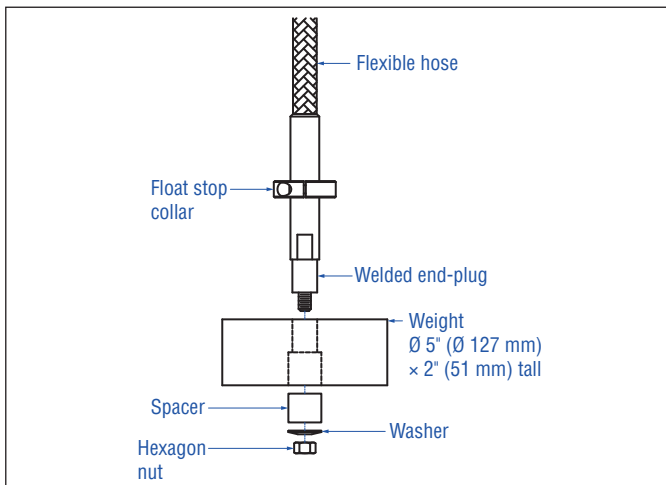
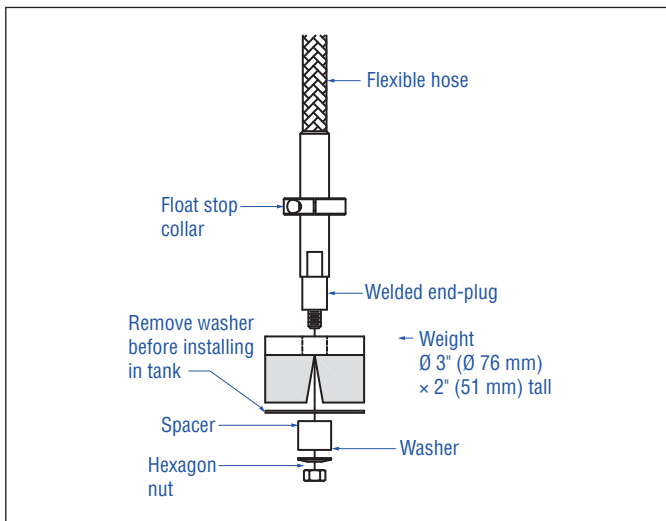
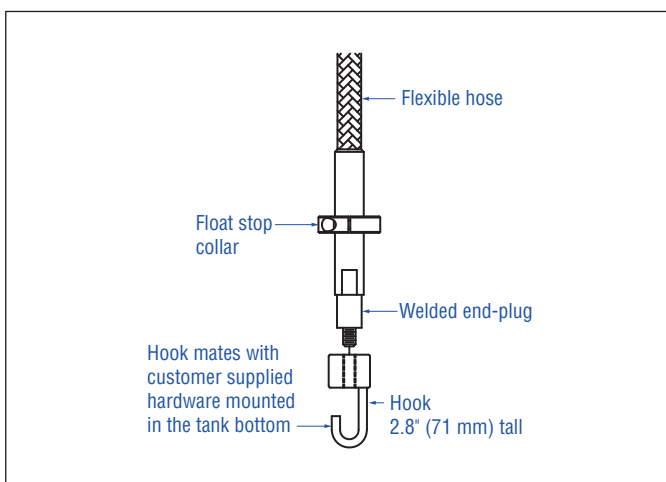

Fig. 6: Bottom fixing weight
Fig. 7: Bottom fixing magnet
Fig. 8: Bottom fixing hook
6. For the flexible hose mount the bottom fixing section of the pipe (this is the bottom rigid section of the pipe) using the supplied nut, spacer and washer, tighten securely as shown in Fig. 6, Fig. 7 and Fig. 8. For the magnet, remove washer before installing in tank.